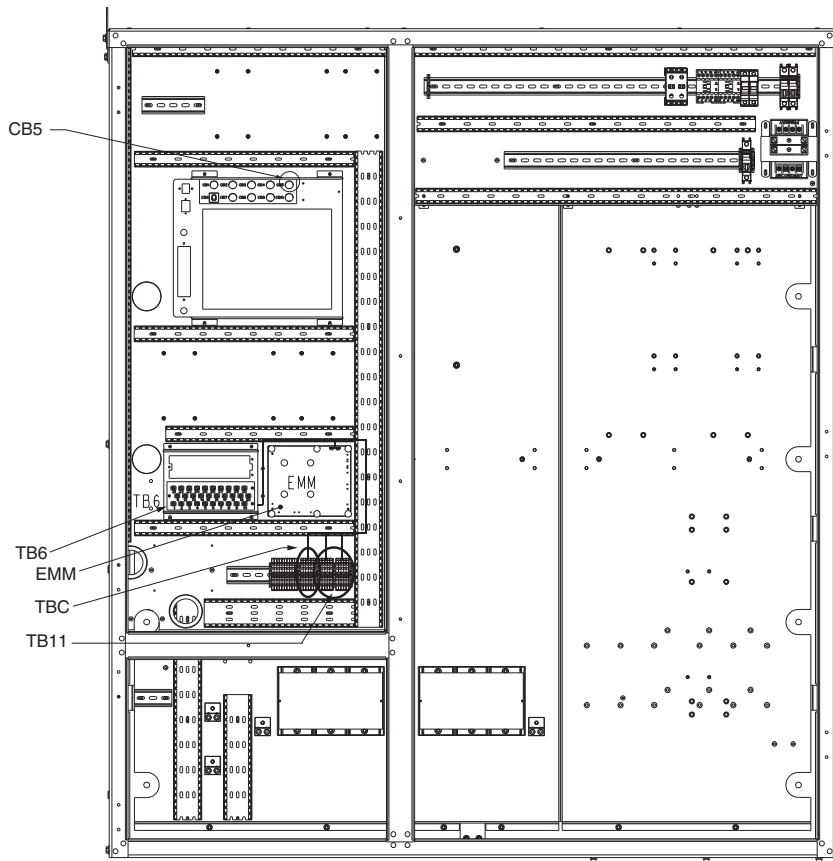

Fig. 1 — Component Layout — 30XVA140-325 Units
4. See Table 3 for TB6 mounting tools and location. Install TB6 in the location shown in Fig. 1 (30XVA140-325), Fig. 2 (30XVB140-325), or Fig. 3 (30XVA/XVB350-500) using the screws included in the accessory package. TB6 should have harness already attached as shown in Table 4. Correct connections should be verified.